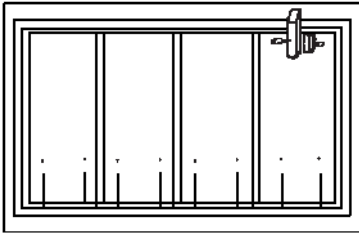
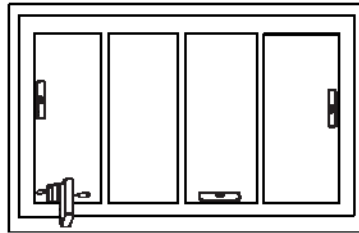

Figure 1
Figure 2
2. Clamp top and bottom of frame into cooler opening. Refer to Figure 1 , and Figure 2 .